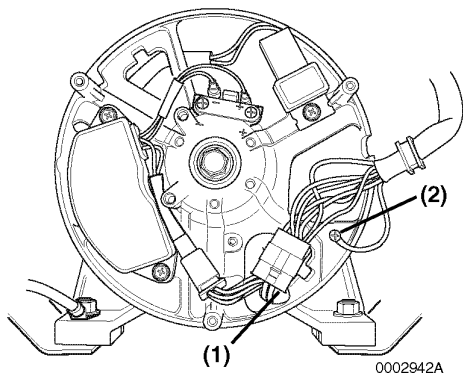

Figure 7-29
Note: YDG2700EV-6EH models use one six terminal connector (**Figure 7-29, (1)**) from the control panel and one ground wire (**Figure 7-29, (2)**) fastened to the rear housing.